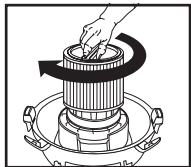

FIGURE 21
41. Hold the tank cover with one hand, turn the handle on the filter retainer clockwise to tighten, locking the filter into place. **FIGURE 21.**